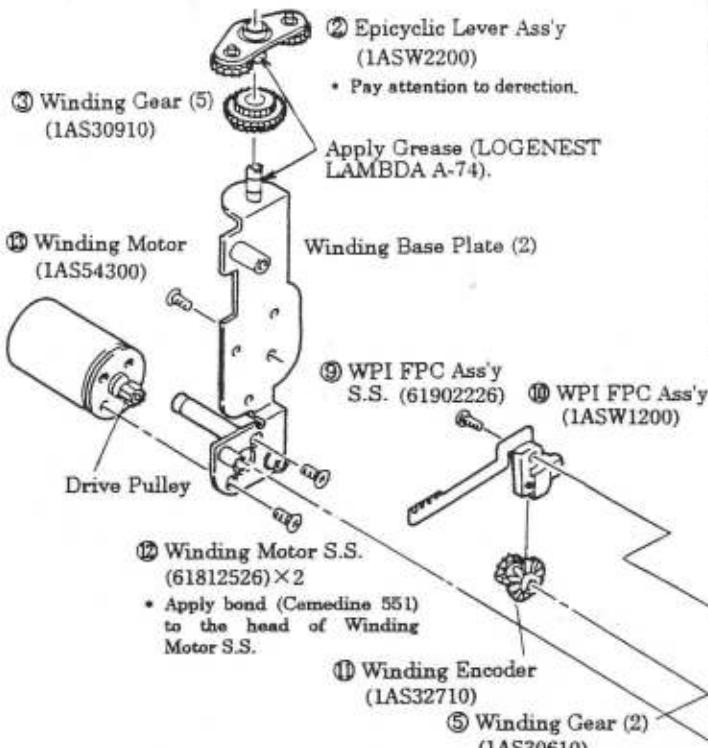

Fig.21
- 1) Remove ① Winding Base Plate (1) Setscrews (61812526) × 4 and separate the Winding Base Plate (1) and Winding Base Plate (2) from each other.
- 2) Remove parts in the numerical order of ② to ⑬ shown in Fig. 21.
- Apply Grease (LOGENEST LAMBDA A-74) as shown in Figs. 21 and 23.